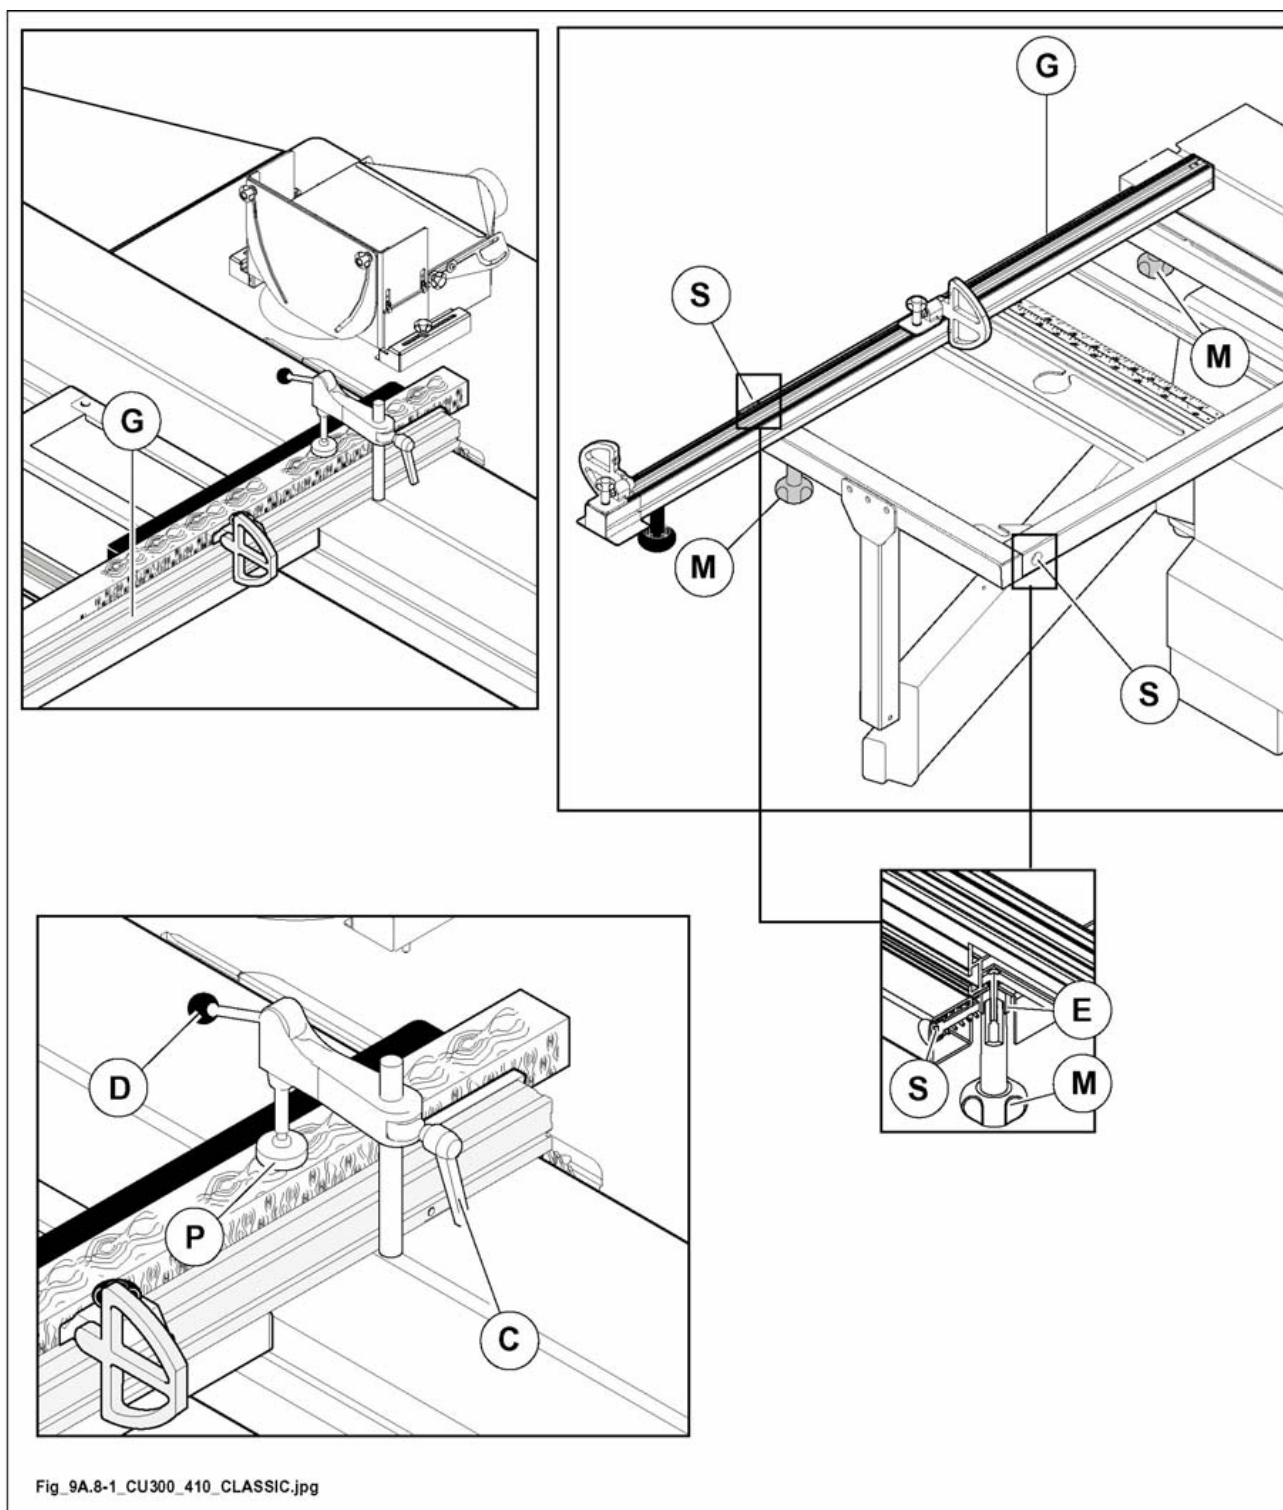

Fig. 9.8-1
- To move the rule loosen the knobs (M fig. 9.8-1).
- Position the telescopic ruler in such a way that the pin (E fig. 9.8-1) fits into place against the device (S fig. 9.8-1).
- Tighten the knobs (M fig. 9.8-1).
- Rest the workpiece against rule (G fig. 9.8-1), so that its projection to the tool is larger than the tenoning depth.
- Clamp the workpiece with the presser foot (P fig. 9.8-1) by lowering the lever (D fig. 9.8-1).
- For height adjusting loosen handle (C fig. 9.8-1).
- By means of lever (D fig. 9.8-1) lower foot (P fig. 9.8-1) to clamp the piece.